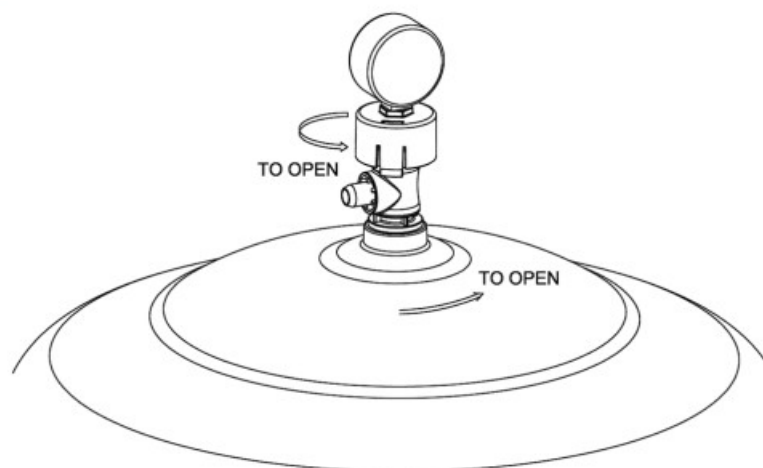

Figure 11
3. The Manual Air Relief Valve must be placed in the OPEN position. (See Fig 11) Wait until all water leakage has stopped.